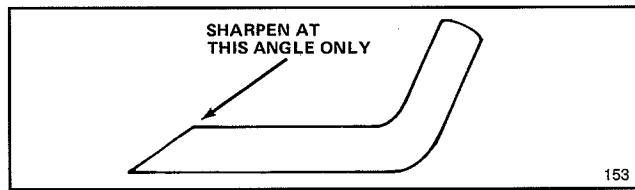

Figure 21
- 6. SHARPENING BLADE**—Using a file, sharpen top side of blade and maintain original cutting angle (Fig. 21). The blade will remain balanced if same amount of material is removed from both cutting edges.